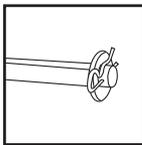

FIGURE 3
4. Slide on one washer. **FIGURE 3.**